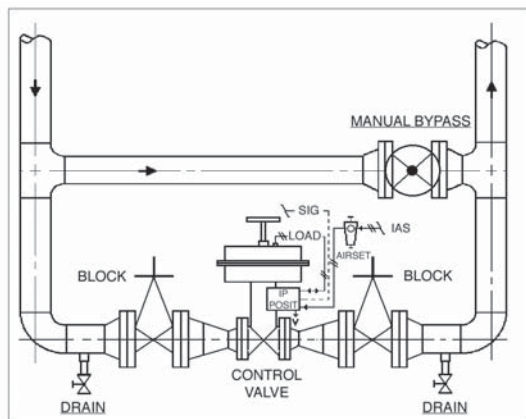

Figure 1: Typical Control Valve Station
1. It is recommended that the control valve unit be installed with a double-block and bypass as indicated in Figure 1. This arrangement is recommended especially where maintenance will be done on the valve body while still installed in the pipeline.